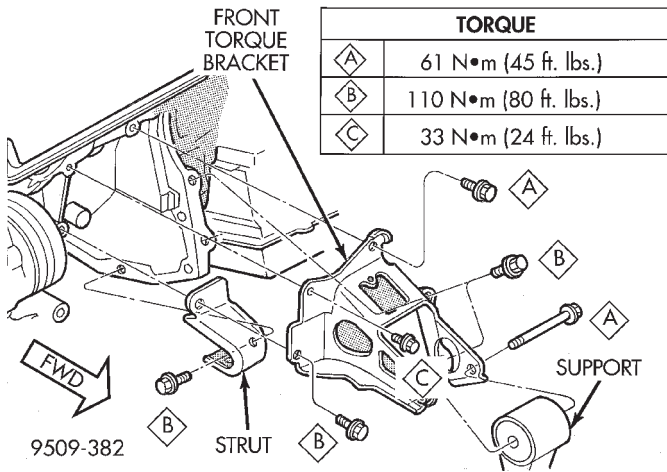

Fig. 22 Engine Mounting—Front 2.5L
- (1) Raise vehicle on hoist.
- (2) Remove through bolt (A) at front mount (Fig. 22).
- (3) Remove attaching bolts from mount to lower radiator support crossmember.
- (1) Position front mount. Install front mount to lower radiator support crossmember attaching bolts. Tighten bolts to 61 N·m (45 ft. lbs.).
- (2) Install through bolt (A) (Fig. 22).
- (3) Tighten front through bolt (A) to 61 N·m (45 ft. lbs.) (Fig. 22).